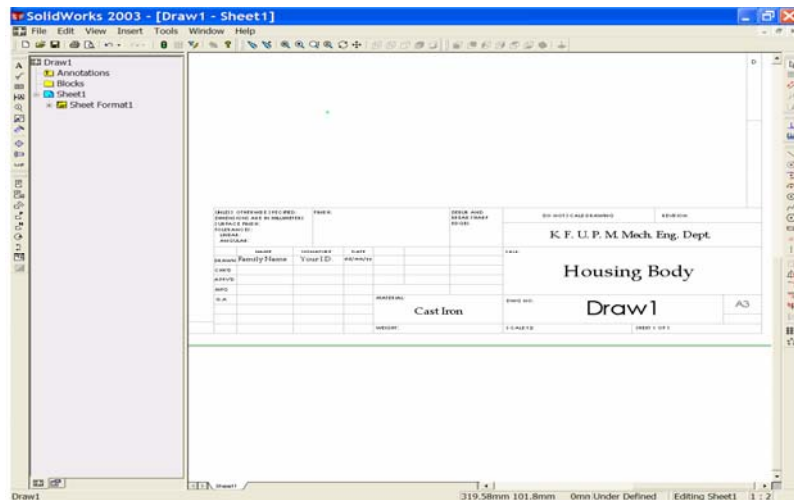

Figure 7
11. Under the Name Box add your '**family name**'. Under signature add '**your ID Number**'. Under Date add the '**date the drawing was made**'. See Figure 7.